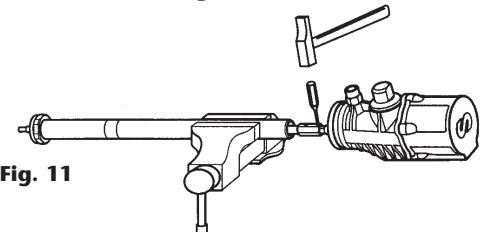

Fig. 11
5. Remove the pin situated in the upper part of the union nut (fig. 11) and unscrew the air motor body from the suction tube assembly.